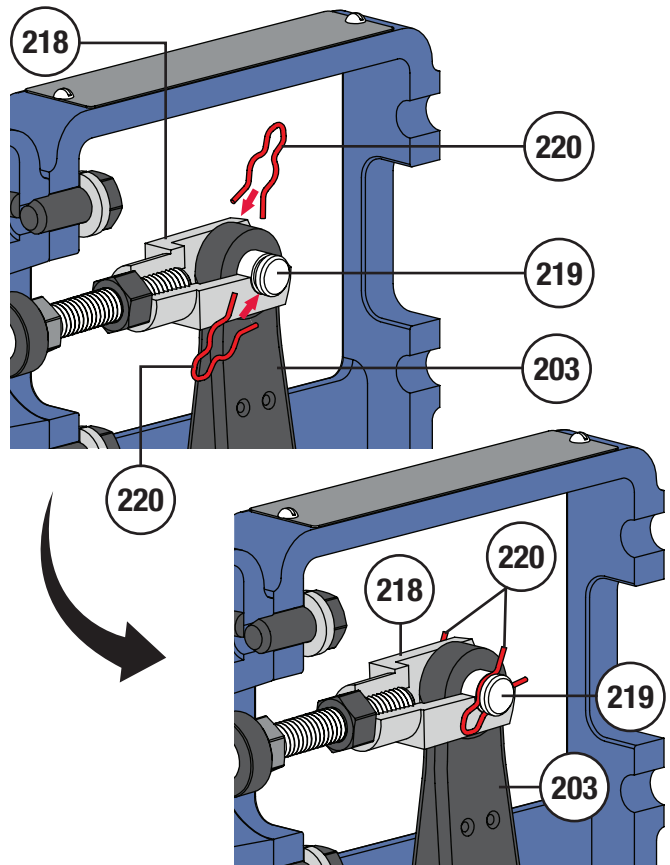

Figure 59 Clevis Clip Installation Detail
- Install the clevis clips (Key 220) as shown in Figure 59.
- 7 Install the clevis clips (Key 220) as shown in Figure 59.